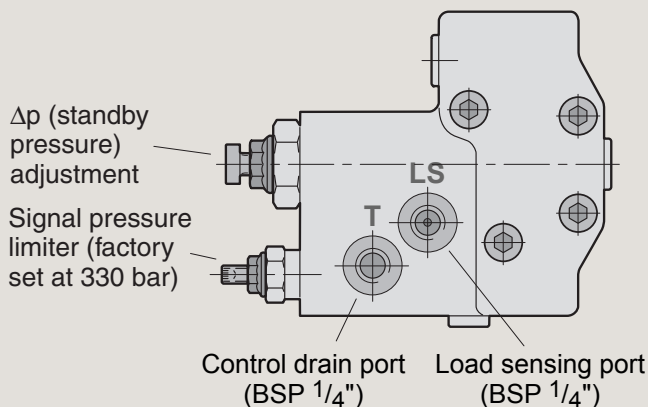

Fig. 8. LS control adjustments.
- The signal pressure relief valve is factory set at 350 bar (fig. 8).